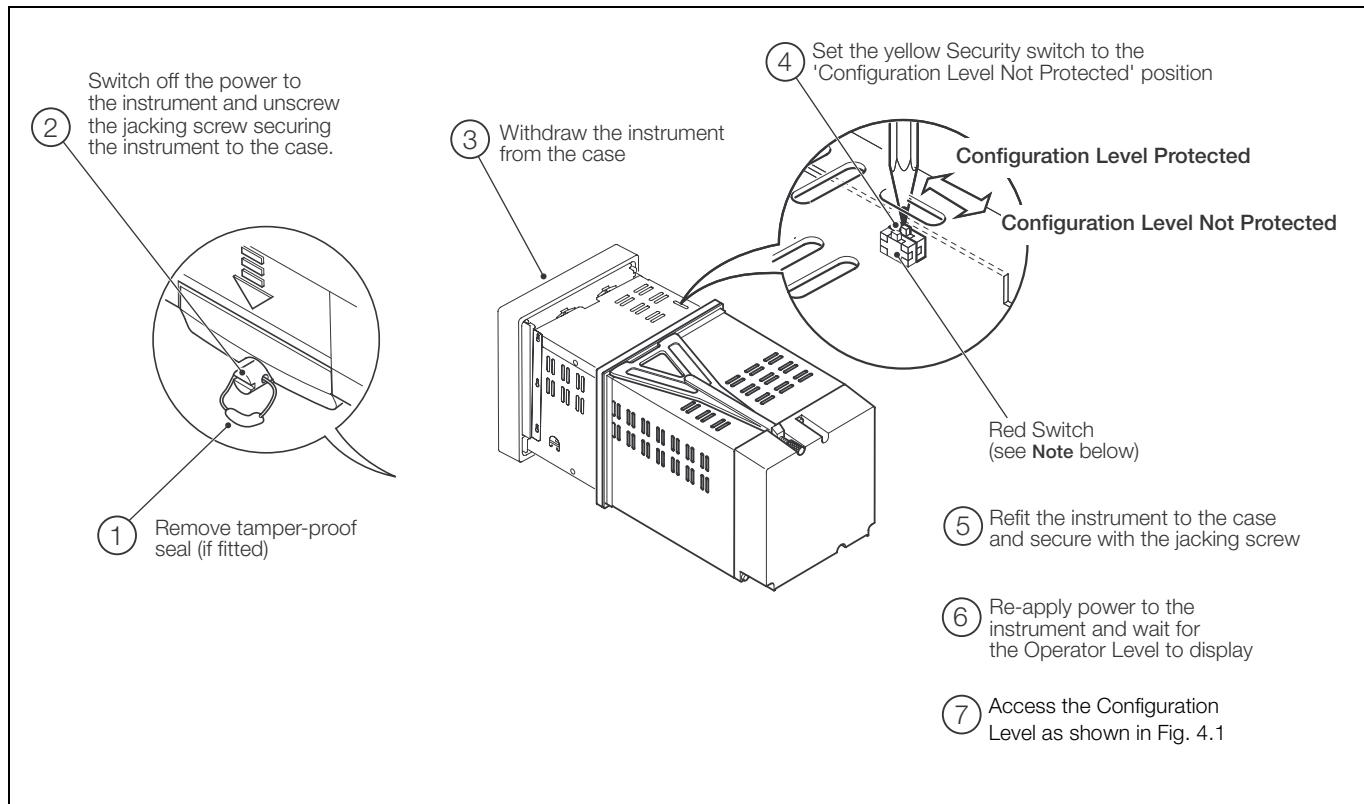

Fig. 4.2 Setting the Security Switch
The Configuration level cannot be accessed until the instrument is withdrawn from its case and the internal switch set to the 'Configuration Level Not Protected' position – see Fig. 4.2, page 47.
- Set the internal security switch to the 'Configuration Level Not Protected' position – see Fig. 4.2, page 47.
- If 'Switch protected' is selected, access to the Configuration level for all users is prohibited once the changes have been saved and made active. Access to the Configuration level is then achieved only by setting the internal security switch to the 'Configuration Level Not Protected' position – see Fig. 4.2, page 47.